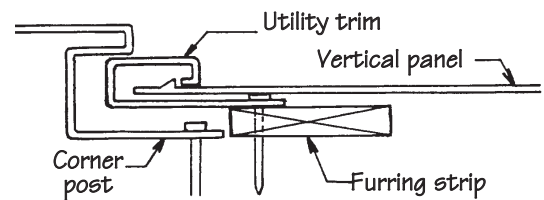

Figure 60.
- If the panel is cut on the flat surface, install utility trim, backed by furring, into the J-channel. Punch snap locks along the cut edge of the panel at 6" intervals and snap it into the utility trim (Fig. 60).